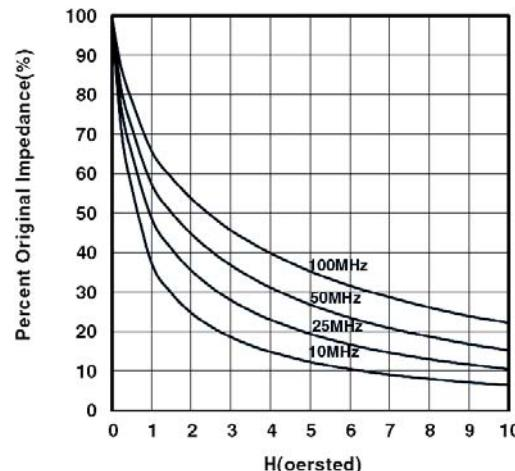

Fig 26 – Reduction of Impedance with DC Current (Bias) Fair-Rite #31 Mix
**The Fair-Rite catalog** provides data for the H-field in Oersteds for 1 Ampere-Turn for many of their products. The applications section at the end of the catalog includes families of curves showing how the impedance of each material (mix) is reduced as a function of field strength and frequency. (Fig 26)